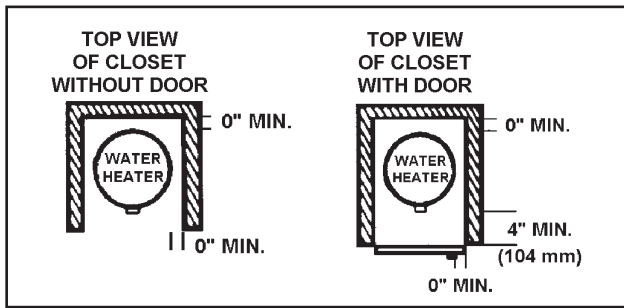

FIGURE 3.
4. Carefully plan the place where you are going to put the water heater. Correct combustion, vent action, and vent pipe installation are very important in preventing death from possible carbon monoxide poisoning and fires. See Figures 3 and 8.
Minimum clearances between the water heater and combustible materials are 0 inch at the sides and rear, 4" (102 mm) at the front, and 6" (153 mm) from the vent pipe. Clearance from the top of the jacket is 12" (305 mm) on most models. Note that a lesser dimension may be allowed on some models, refer to the label attached adjacent to the gas control valve on the water heater, see Figure 3.